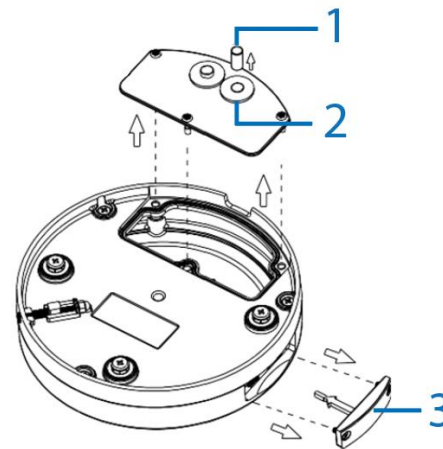

Figure 8
- Remove the rubber plug (1) (Figure 8) and the two waterproof rubber inserts (2) (Figure 8) and then thread all cables through the waterproof rubber inserts. Ensure that the waterproof rubber inserts are inserted correctly back into the holes on the camera.
- Use the screwdriver to remove the two screws on the SD card slot cover (3) (Figure 8) and then insert a micro-SD card.